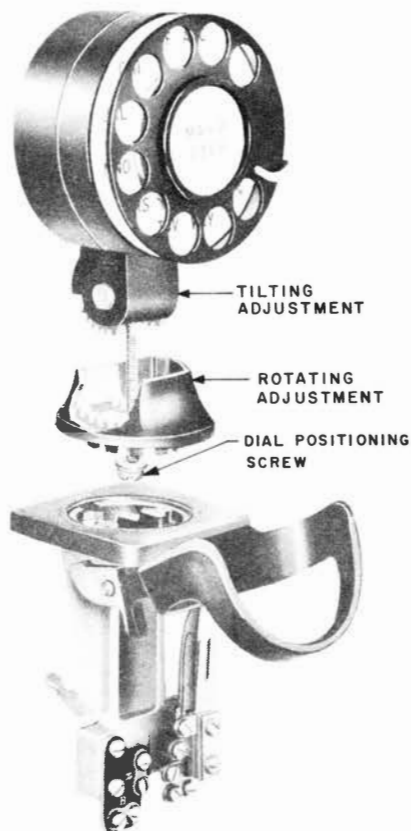

Fig. 15 — Positioning Adjustments of 43A Dial Mounting
6.05 The 41A and 43A dial mountings used with G-type handset mounting are arranged so dial may be rotated. Dial is locked in one of 12 positions, 30 degree intervals, by means of notches in base of dial mounting. Notches engage two studs at the top of handset mounting. Dial may be rotated as follows (see Fig. 15) :
6.06 The 43A dial mounting may also be tilted as much as 45 degrees backward in 15-degree intervals. Dial is tilted as follows (see Fig. 15) :